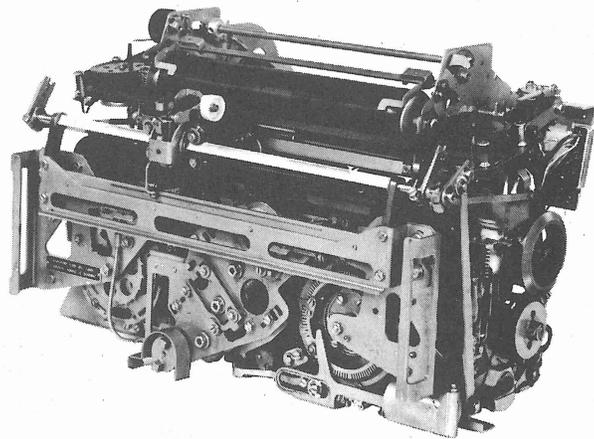

Figure 1 - 37 Typing Unit with
1.01 This section provides lubrication pro- cedures for the early design 37 typing unit (Figure 1), and is reissued to incorporate changes in lubrication requirements. Marginal arrows have been included to indicate these changes.